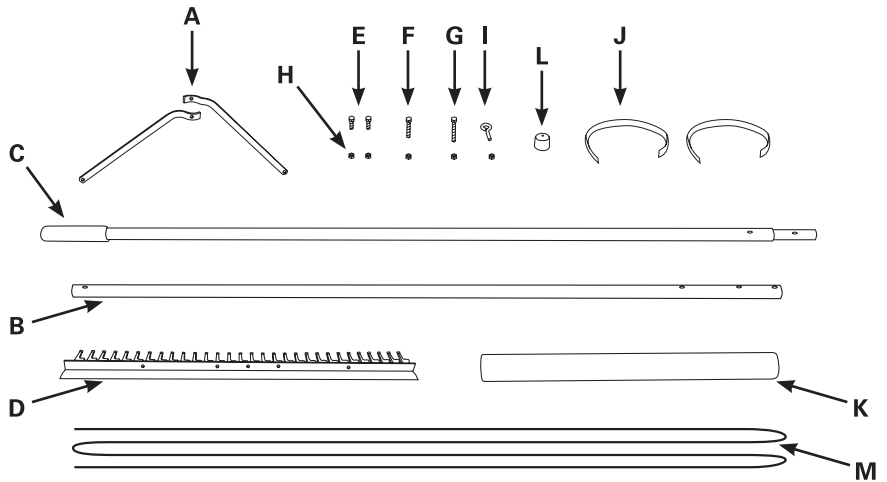

Figure 1
1. Place the slotted end of the handle onto the flat edge of the rake head, aligning the end handle hole with the center head hole. Place the 1/4" -20 x 1-1/2" hex bolt through the aligned holes. Do not tighten nut. **(See Figure 1)**